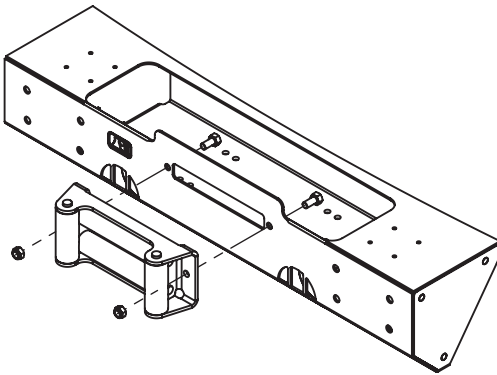
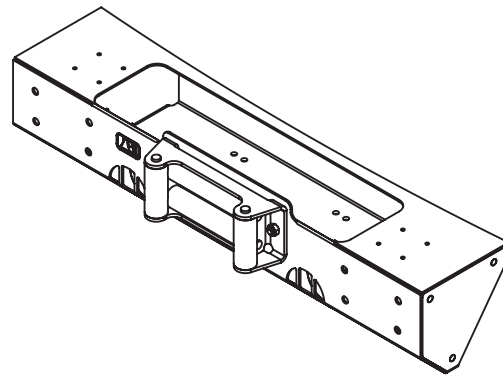

Figure 1a
Figure 1b
1. Winch can be installed with the Bumper on or off of the vehicle. Remove any Hoops from the Bumper. Install Fairlead to Bumper. Note - bolts for Fairlead (supplied with it) should pass from inside the Winch cavity, with the nut being installed on the outside (Figure 1a). Tighten Fairlead bolts (Figure 1b).